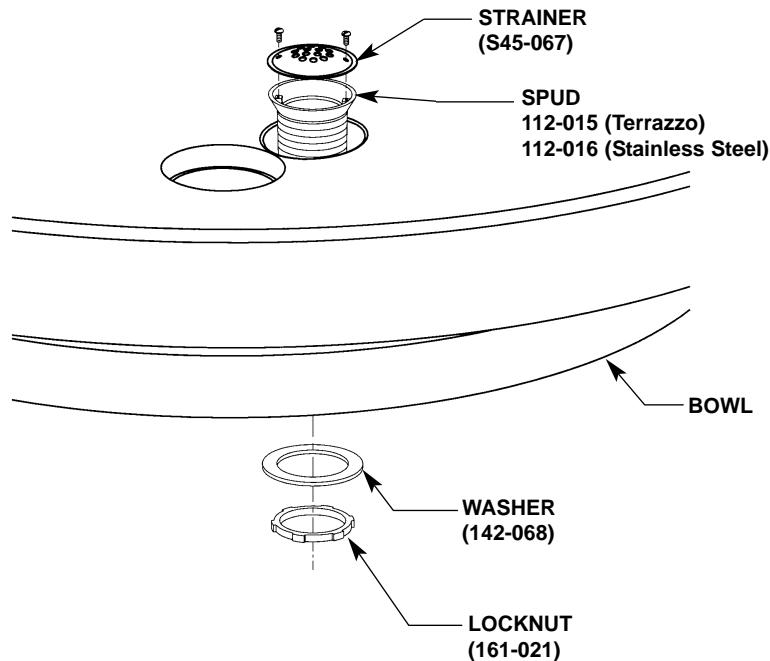

Figure 6
3. Position the bowl and pedestal assembly so that the bowl drain is in line with the trap or drain line (see Figure 5 at right and figure 6 on page 11).
4. Screw the drain spud part of the way into the drain to ensure correct alignment (see Figure 6 on page 11).
3. Screw the drain spud part way into the drain to ensure correct alignment (see Figure 6).
1. Secure drain spud with lock nut and washers as shown in Figure 6.